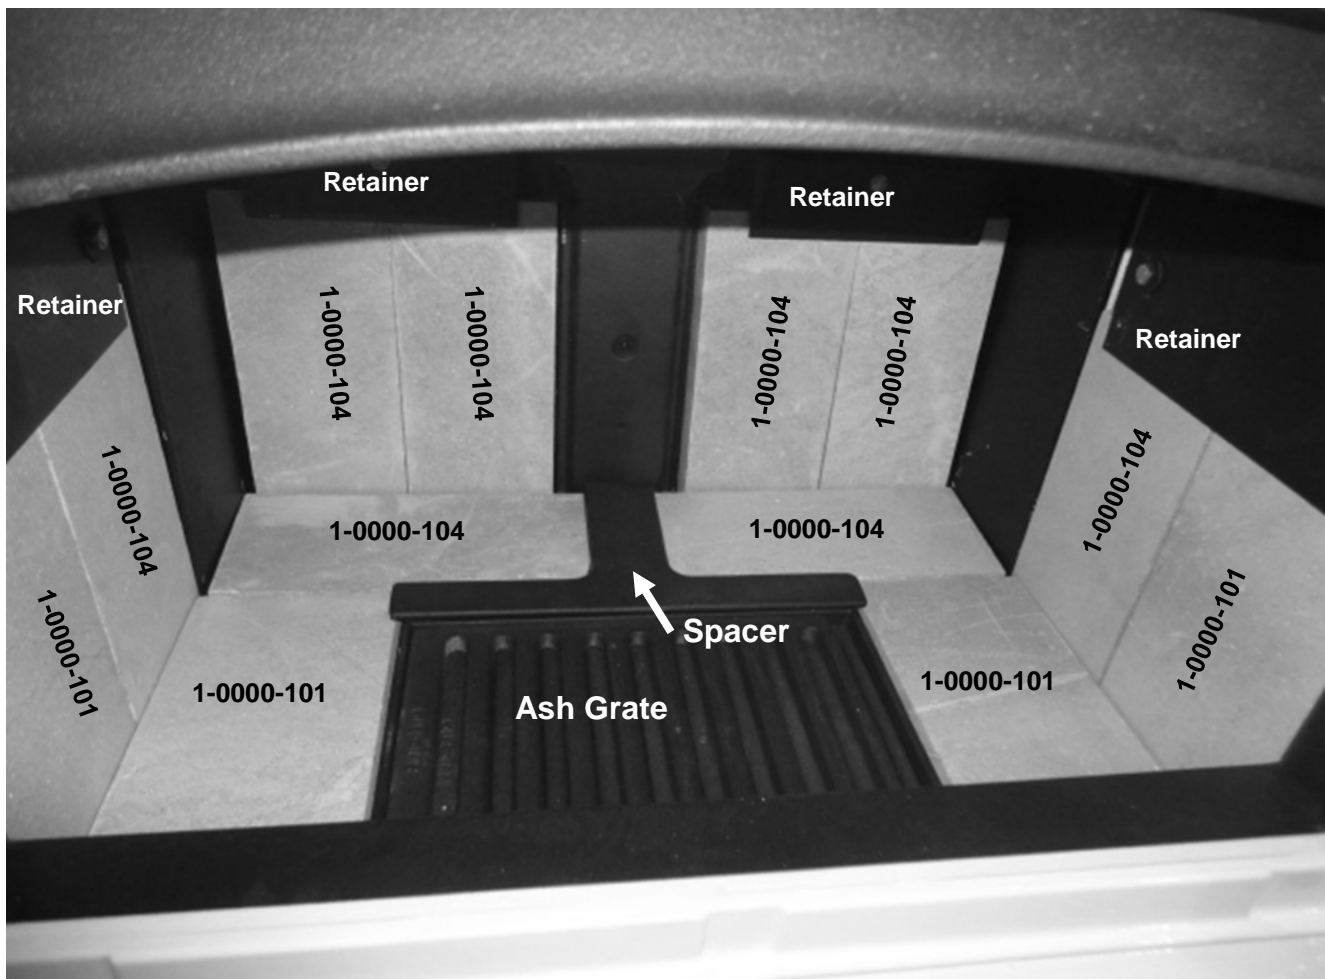

Figure 1
5. Using Figure 1 as a reference – install the soapstone refractory: